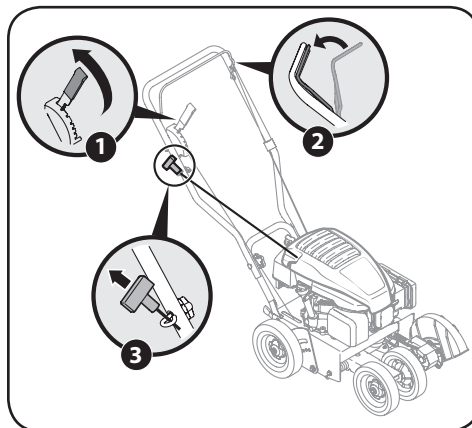

Figure 4-2
1. Move the blade depth control lever back to the START position in the adjacent (top) notch. See Figure 4-2.
2. Standing behind the edger, depress the blade control and hold it against the upper handle with your left hand. See Figure 4-2.
3. Pull the starter grip lightly until resistance is felt, then pull rapidly to overcome compression, prevent kickback and start engine. Repeat if necessary. See Figure 4-2.